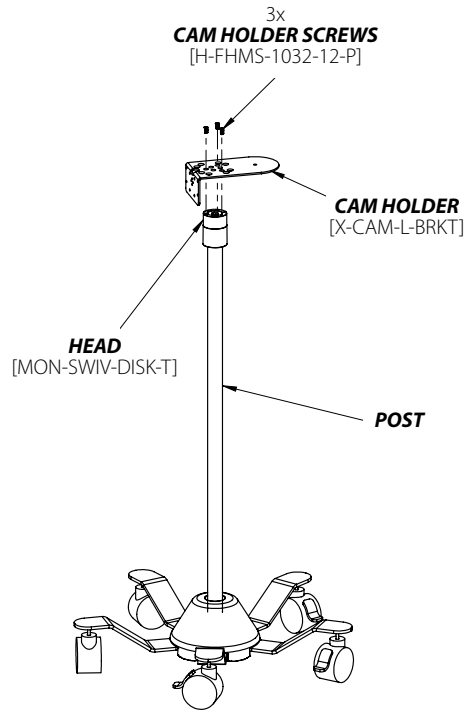

Figure 1
1. Place the *CAM HOLDER* on top of the *HEAD* as shown in **Figure 1**. Secure and tighten the 3x *CAM HOLDER SCREWS* through the *CAM HOLDER* into the *HEAD*.